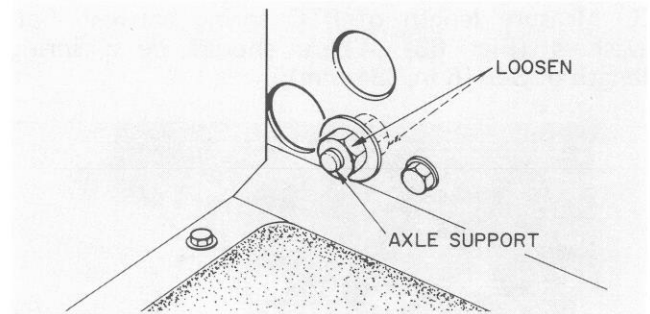

Figure 61
2. To correct vertical misalignment, loosen axle support nuts at rear of floor plate (Fig. 61). A transmission that is too high will have a gap be-